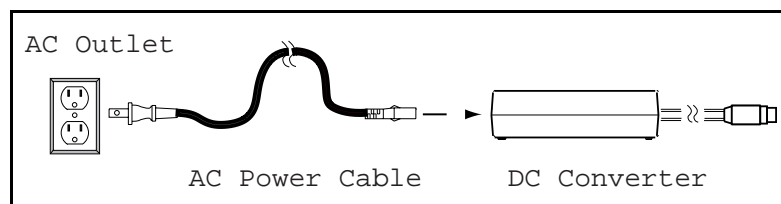

Figure 4 Connect the AC Power Cord
4. Connect the AC-power cord between the DC converter and an AC outlet (Figure 4). Your EUM3000 will power-up; there is no ON/OFF switch on the modem.